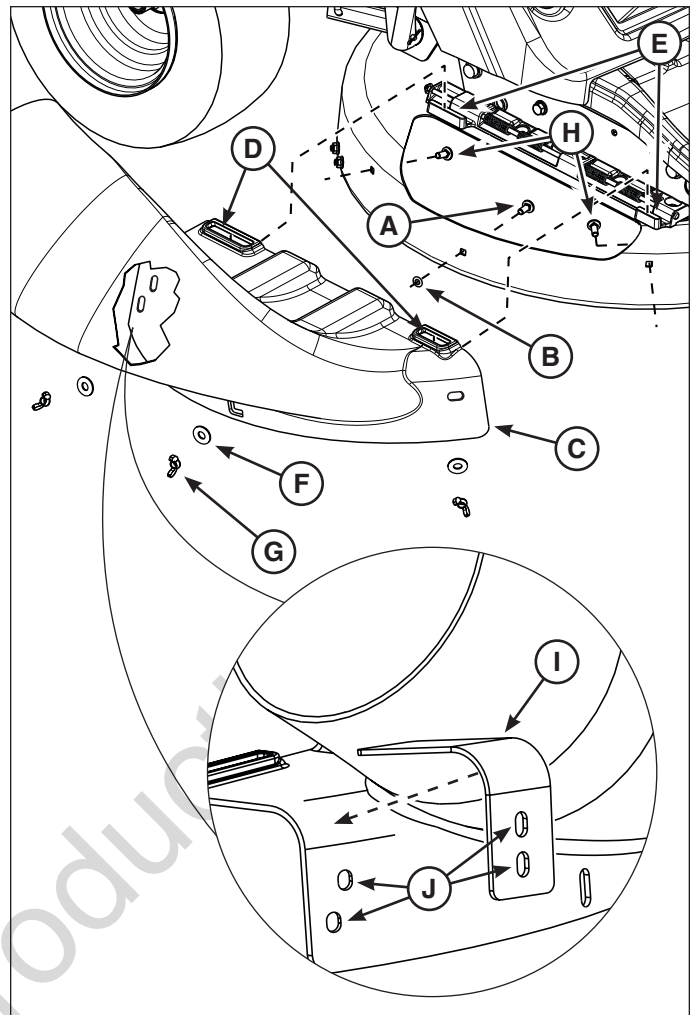

Figure 8 (Mulching cover not shown to provide clarity)
2. Install the 5/16 x 3/4" carriage bolt (A, Figure 8) out through the middle hole in the side of the deck, and secure with the 5/16" bolt retainer (B).